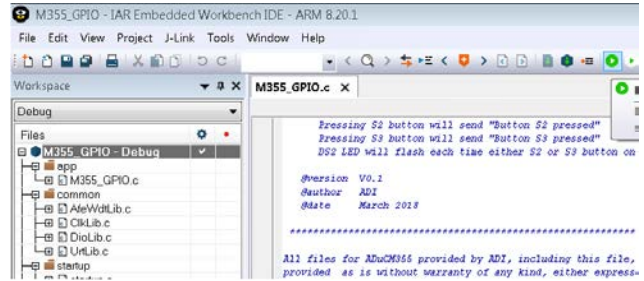

Figure 12. Launching the Debugger
3. To run the firmware on the ADuCM355, ensure the evaluation board is powered on and the J-Link debugger is connected. Press the **Download and Debug** button to load the firmware to the ADuCM355 and launch the debugger (see Figure 12). It usually takes a few seconds to launch and download, but the delay can be longer.